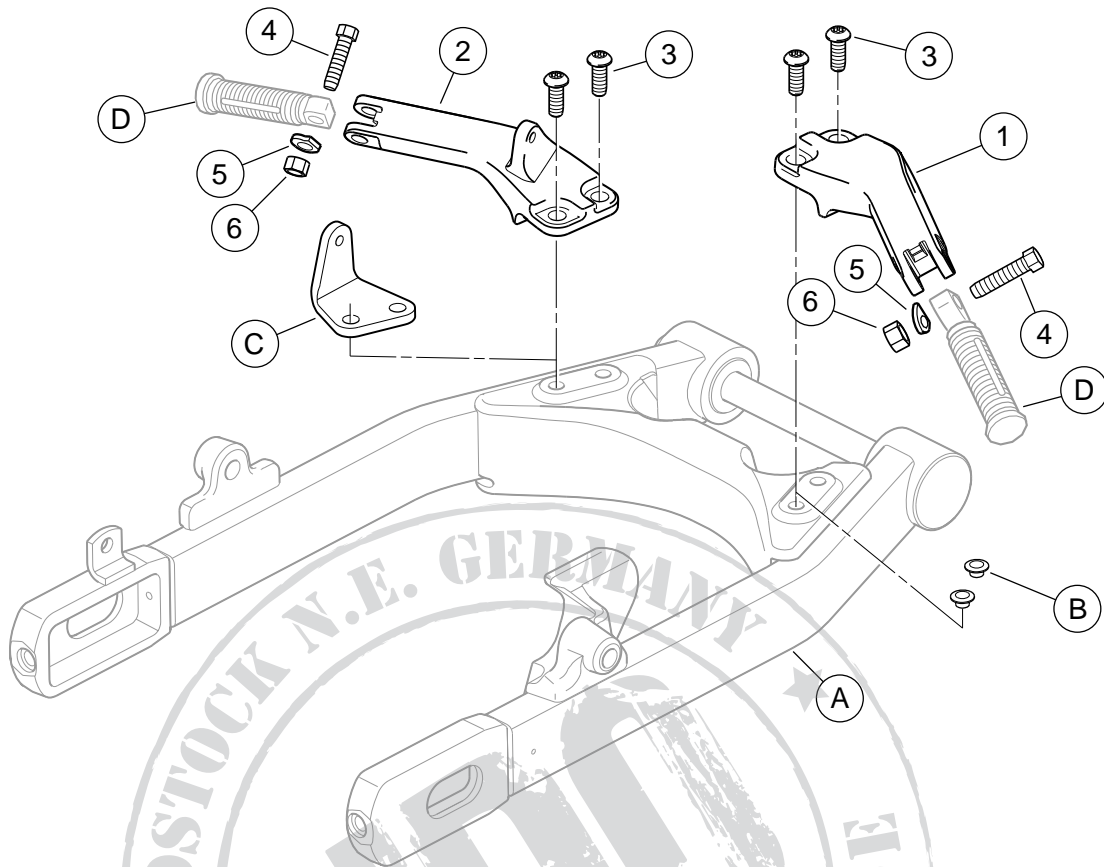

Figure 5. Service Parts, Passenger Footpeg Mounting Kit
See Figure 5 and Table 1.
6. Remove the two hex head cap screws (4) that attach the belt guard mounting bracket (5) to the rear fork. The bracket and screws can be discarded.
7. See Figure 5. Obtain the left-side footpeg support (2) and two self-tapping screws (3) from the kit. Install the support to the mounting location as shown, and torque the screws to 25-35 ft-lbs (34-47 Nm).
12. See Figure 5. Install a passenger footpeg (purchased separately) on each footpeg support as shown, using a hex head cap screw (4), spring washer (5) and lock nut (6) from the kit.